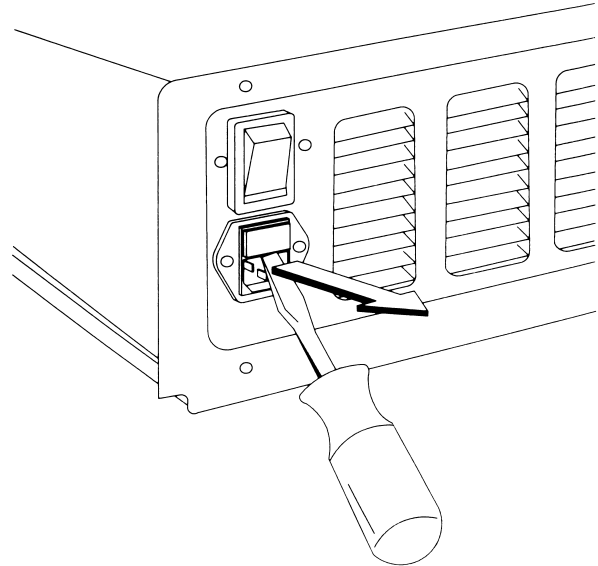

Figure 7-8. Removing the Fuse Holder.
2. Insert a flat-bladed screwdriver along the bottom edge of the fuse holder and pry outward with enough pressure to pop the fuse holder out of the casing (Figure 7-8). New fuses are available in the fuse kit (part no. 102930-001).